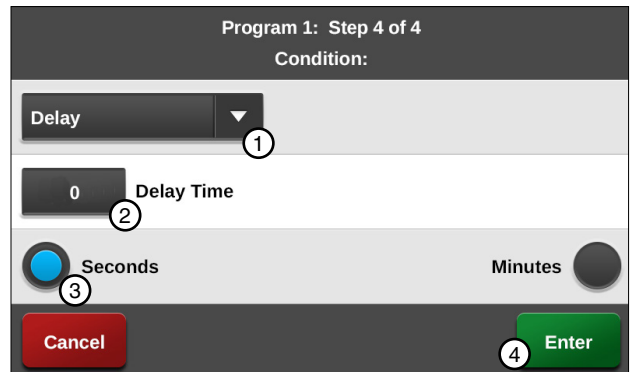

Figure 157-2 1. Delay Condition 3. Seconds
4. Program the Delay condition for this step. Refer to Figure 157-2.